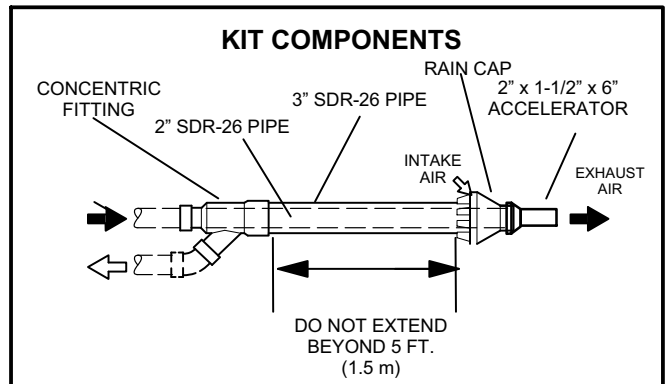

FIGURE 1
- 3 - Use proper joint cementing procedure to join concentric fitting and 3" (76 mm) diameter pipe provided in kit. Cement rain cap to the 2" diameter pipe provided. See figure 1 for component identification.
If the termination assembly must be lengthened to accommodate thickness of the side wall, replace kit-supplied SDR-26 PVC (D2241) pipes with longer pipes of the same diameter. Do not extend length beyond dimension given in figure 1. DO NOT use couplings to extend length of pipes. Airflow will be restricted and unit operation may be interrupted by the pressure switch.
- 6 - Cement provided 2" x 1-1/2" x 6" accelerator to the rain cap. See figure 1.